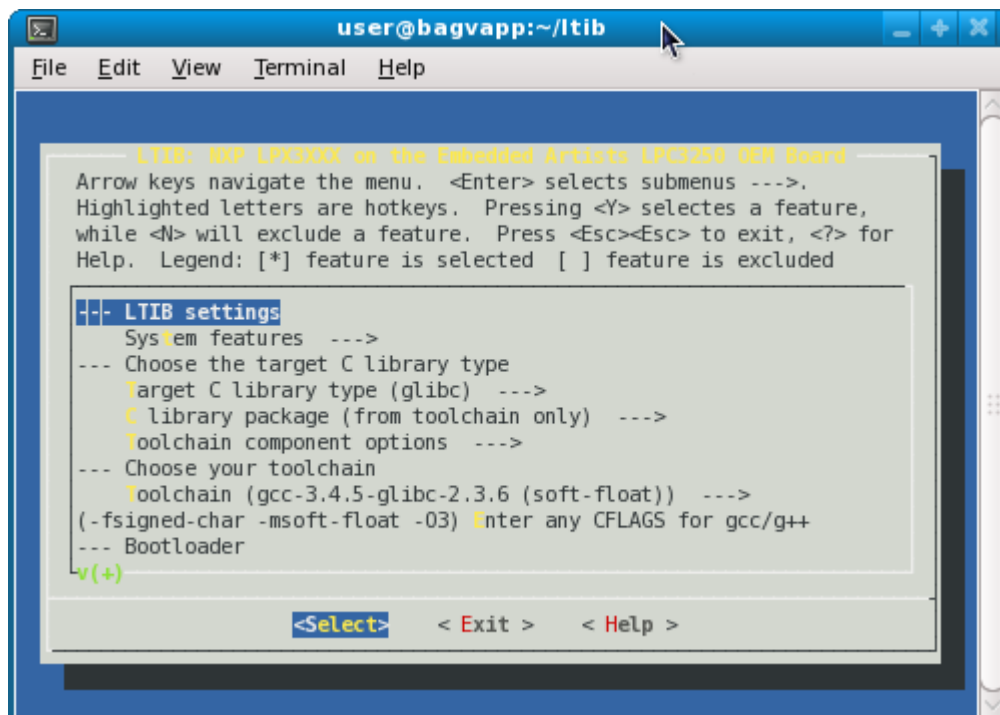

Figure 9 LTIB Platform Configuration Menu
13. A new configuration menu will appear, see Figure 9. For now just click the Exit button and go with the default configuration.
2. The LTIB configuration menu will appear, see Figure 9. Go to the “Package List” option and hit the Enter key (or click Select button).